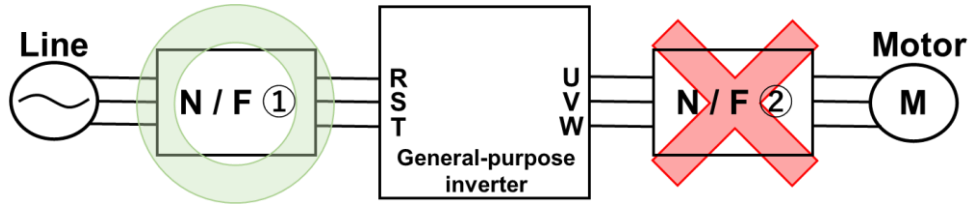

Figure 1
The EMI-RFI filter cannot be used on the output side of a general-purpose inverter (position of N / F ②) as shown in Figure 1 except for some instances. The three-phase GTX series can be used at the position of N / F ① in the figure below.